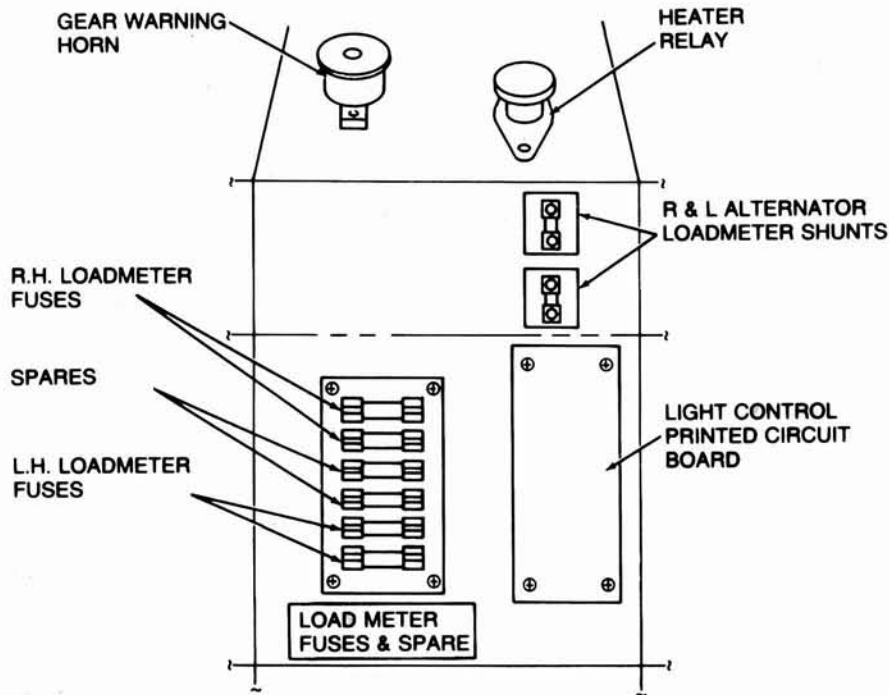

Figure 1.
2. Remove and discard the P/N MDA15 load meter fuses and spares from the load meter panel located on the RH forward side of the lower center panel console. Reinstall the new P/N MDA5 fuses and spares as shown in figure 1.